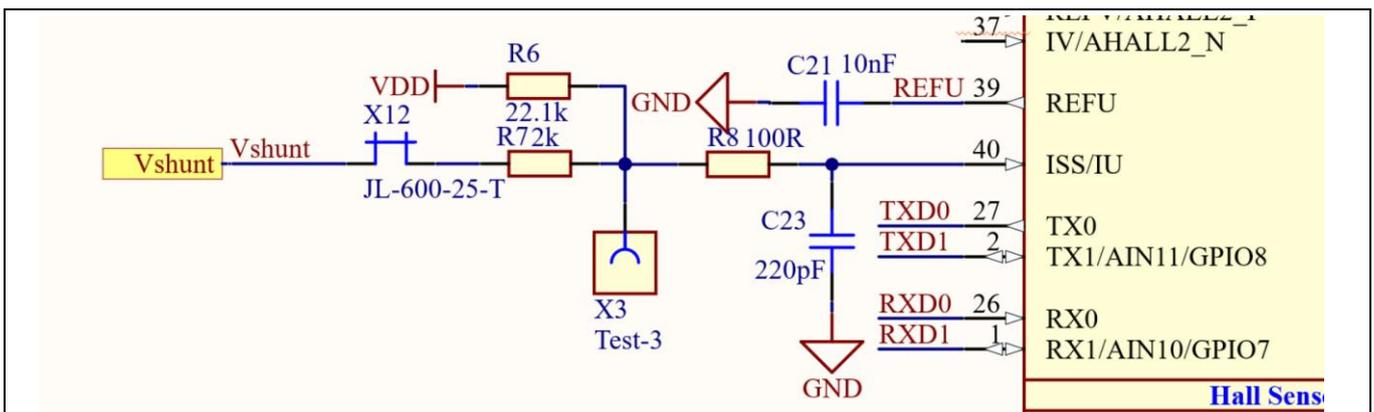

Figure 16 Current-sensing circuit on the board
As an example in Figure 16, this board has the following values: $R_1 = R_7 = 2 \text{ k}\Omega$, $R_2 = R_6 = 22.1 \text{ k}\Omega$, $V_{CC} = 5 \text{ V}$. By using the formula Eq. 5, the offset is 0.415 V, and the gain is $\frac{R_2}{R_1 + R_2} * R_{shunt} = 229.3 \text{ mV/A}$.
- R8 and R20 in Figure 16 also determine ADC operational bias for current sensing, which corresponds to the motor regeneration operation range. For the applications that do not work with regenerative braking mode,